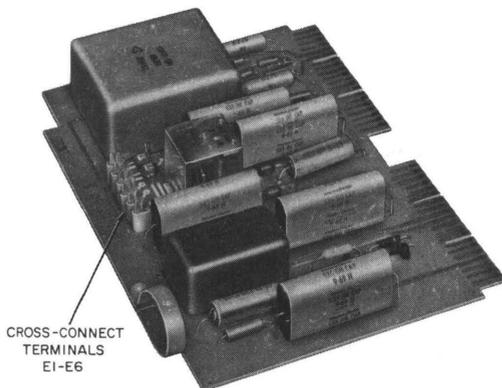

Fig. 1—112A Interconnecting Unit
- Unit, Interconnecting, 112A (one per CO trunk, Fig. 1).
**3.08** If the incoming CO trunk is 600 ohms, strap E1 to E2 and E4 to E5. If the incoming CO trunk is 900 ohms, strap E1 to E3 and E4 to E6 (Fig. 1 and 7). Check connections for continuity after strapping to make sure terminals cut through insulation.